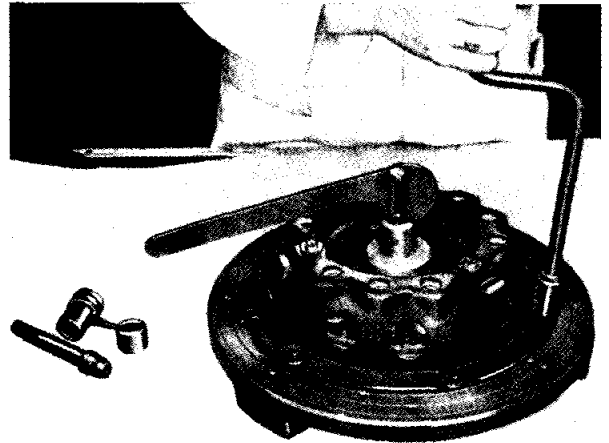

Fig. 9 Securing Cover assembly to Base Plate.
- (f) Insert through the cover pressing six bolts and secure cover assembly to base plate (Fig. 9). Remove the actuator.